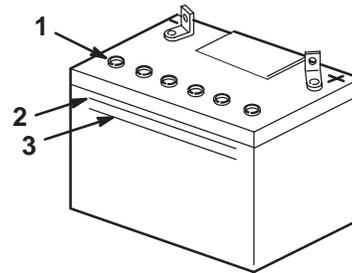

Figure 26
2. Look at the side of the battery. The electrolyte must be up to the Upper line (Fig. 26).
Important Do not allow the electrolyte to fall below the Lower line (Fig. 26).
3. Remove the vent caps from the battery (Fig. 26).
4. Slowly pour distilled water into each battery cell until the electrolyte level is up to the Upper line (Fig. 26) on the battery case.
5. Wait 5 to 10 minutes after filling the battery cells. Add distilled water, if necessary, until the electrolyte level is up to the Upper line (Fig. 26) on the battery case.